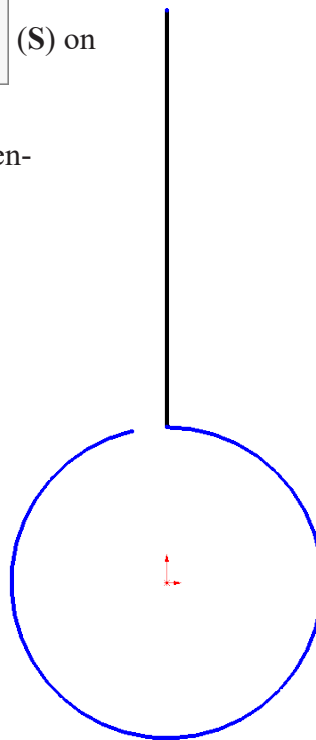
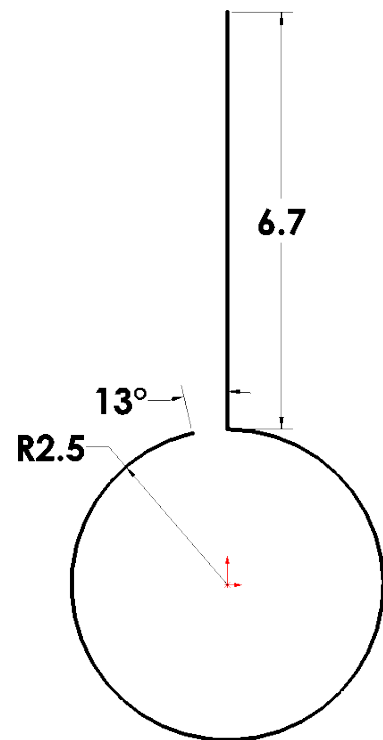

Fig. 3
Fig. 4
Step 5. Click **Line**  (L) on the Sketch toolbar.
Step 6. Sketch line up from arc endpoint that is directly above Origin, **Fig. 3**.
Step 7. Click **Smart Dimension**  (S) on the Sketch toolbar.
Step 8. Add dimensions, **Fig. 4**. To dimension angle between the two arc endpoints, click Origin  for vertex of angle and then click the two arc endpoints. Move the cursor and click to place dimension. Key in 13 and press ENTER.